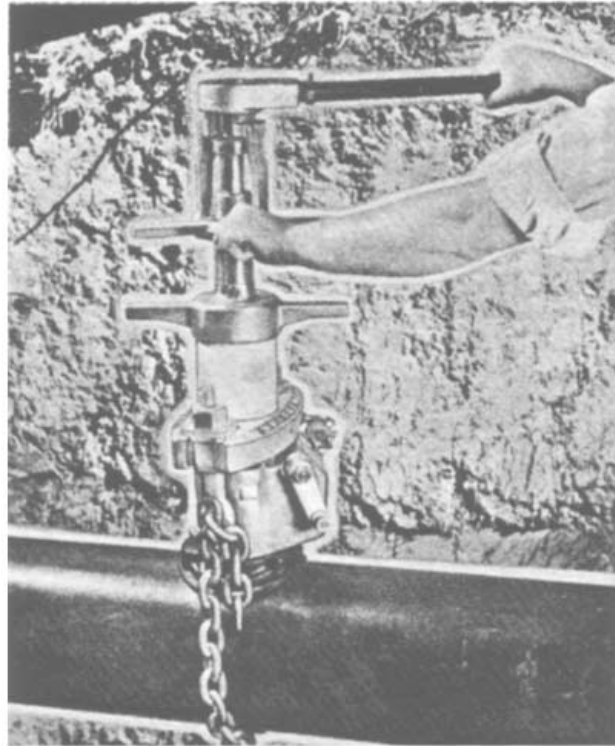

FIGURE 7
2. Drill the main by operating the ratchet handle **clockwise** and turning the feed nut and yoke **clockwise** a little at a time. Use a light even feed at the start. If possible pull the ratchet handle in an arc parallel the the axis of the pipe thereby reducing the tendency of the machine to slip on the pipe. It will be found convenient to turn the feed nut as the boring bar is being turned. FIGURE 7.